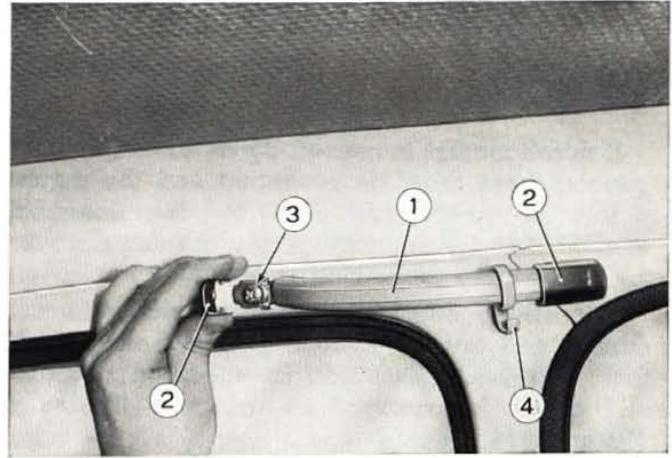

Fig. 411 - Removing strap hanger.
In case strap hangers must be replaced by new ones, pull screw caps (2, fig. 411) which are press fitted in place and remove screws (3) from strap hanger (1).